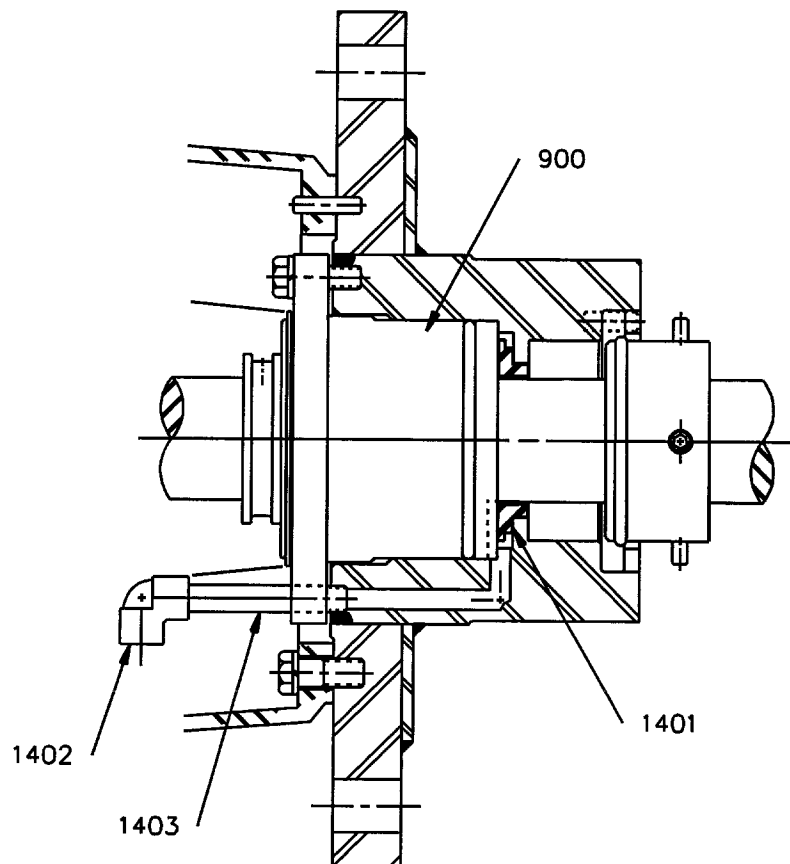

Figure 14: Seal Flush
- Remove lubricator [1017, 1018] (*Figure 7, page 17*) and flush port [1402, 1403] (*Figure 14, page 36*) piping if supplied.